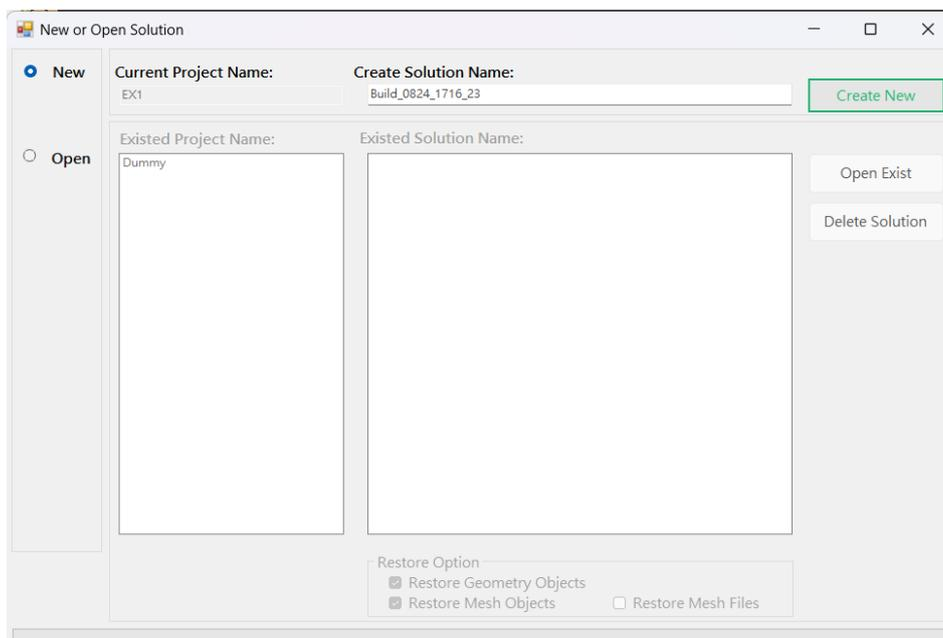

Figure 1.8. New or Open Solution.
2. In the 'New or Open Solution' window, enter the solution name and click 'Create New' as shown in Figure 1.8.